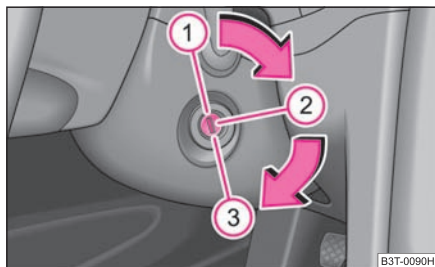

Fig. 121 Ignition lock positions
- The engine can be switched off by turning the ignition key from position  into ⇒ page 111, fig. 121.